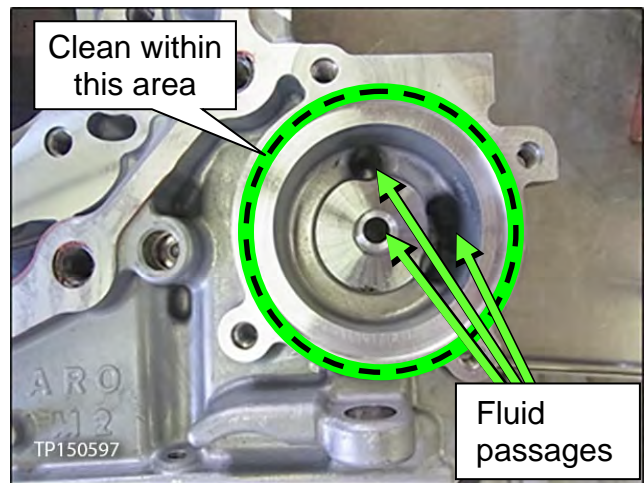

Figure 2D
1. Clean the area where the CVT fluid filter fits (Figure 2D).
2. Clean the fluid passages to and from the filter (Figure 2D).